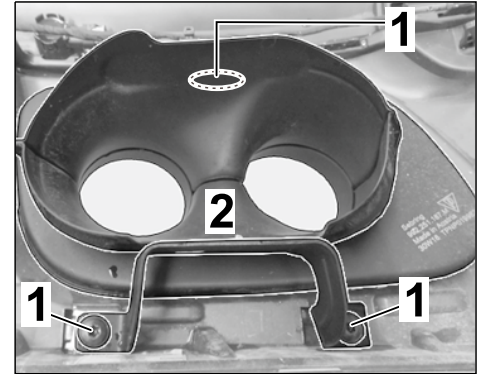

Figure 8
- 3.1.1 Remove trim frame for tailpipe cover (left ⇒ *Figure 8*/right)(⇒ *Workshop Manual '637019 Removing and installing trim frame for tailpipe cover*).